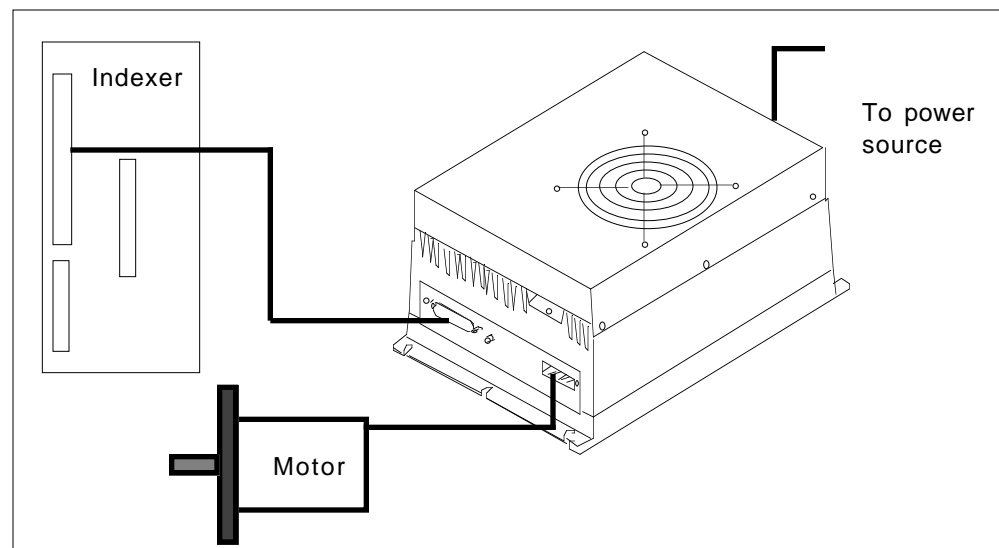

Figure 2-1. System Diagram
- ① Remove the panel that covers the DIP switches. Turn DIP switch **SW2-#1 off** to disable the Automatic Test function. Ensure that switches **SW2-#3** through **SW2-#6** are off. **Do not change any other DIP switch settings.** Screw the panel back onto the drive.
- ② Connect your Compumotor indexer to the drive's 25-pin D indexer connector (refer to Figure 2-1). The appropriate cable is provided with the indexer.
- ③ Ensure that the pre-wired motor cable is connected (refer to Figure 2-1). Apply power to the drive and indexer.
- ④ Using the indexer, send step pulses to the drive that will rotate the motor one CW revolution (50,000 step pulses) at an acceleration of  $1 \text{ rps}^2$  and a velocity of 1 rps (50,000 steps per second).
- ⑤ Using the indexer, send step pulses to the drive that will rotate the motor one CCW revolution at an acceleration of  $1 \text{ rps}^2$  and a velocity of 1 rps (50,000 steps per second).
- ⑥ **Now you will test the Shutdown input. With no step pulses applied to the drive, activate the Shutdown input. Refer to your indexer's operations manual for instructions on activating the Shutdown input.**